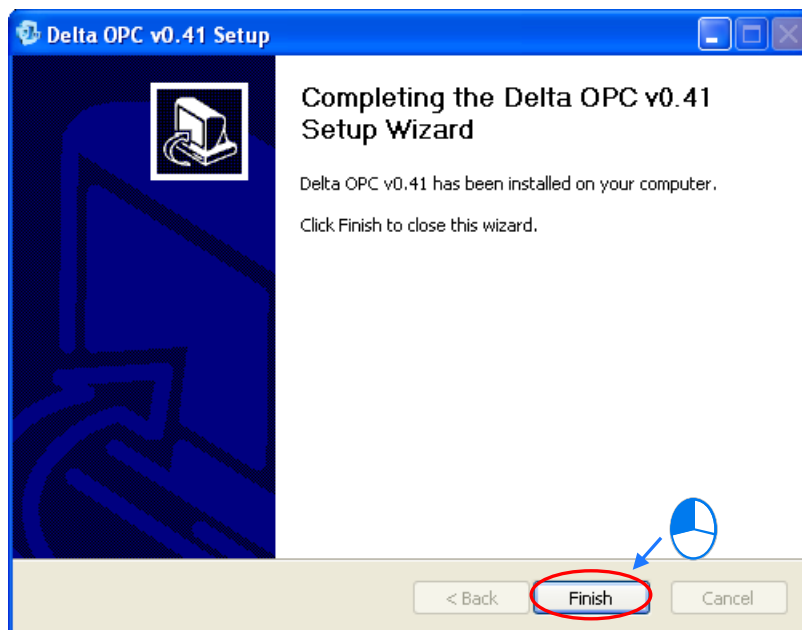

Figure 1-6 Completing the installation of Delta OPC
(5) Finally, click **Finish** to complete the installation of Delta OPC, as shown in figure 1-6.